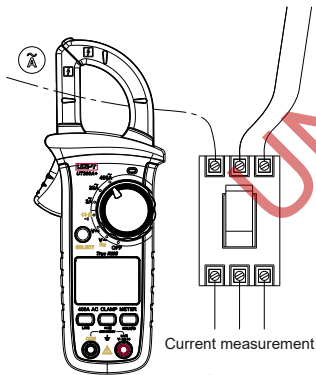

Figure 2
1. AC Current Measurement (Figure 2)